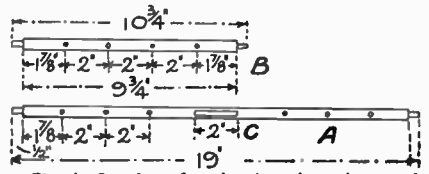

Fig. 4—Spacings for the dowels and penguin panel
The spacing of the rods for the ends of the cot are shown at (B) in Fig. 4. Both top and bottom rails have tenons, and the upright rods are the same length as those for the sides.
The fourth type of joint is the corner joint as might be used in making a square frame. The ends of the canes are mitred at 45 degrees in the usual way and one tube is then plugged with a soft dowel. A hole is then drilled through the outside wall of the other tube, as shown in Fig. 4, through which a small wood-screw passes. A coating of glue on the mating surfaces should also be used. The main point to remember here is that the drilled hole must be a clearance size